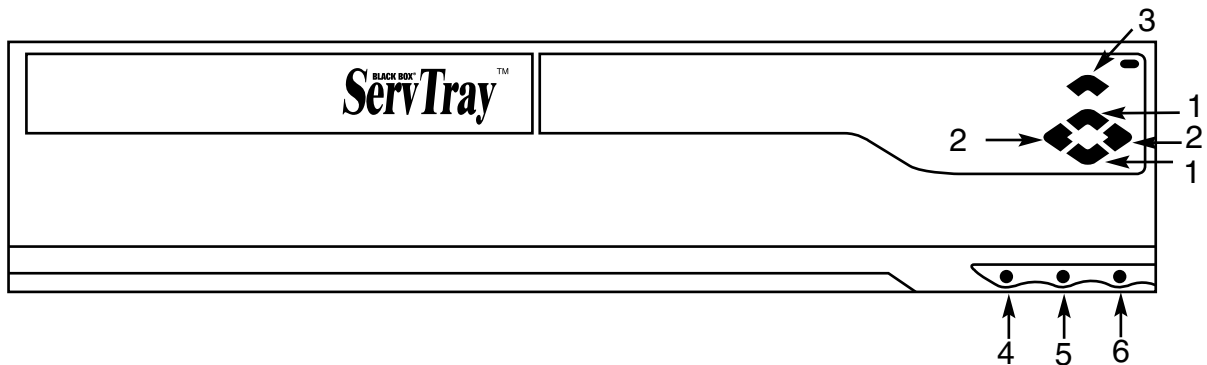

Figure 4-1. The ServTray's components.
Once the ServTray is installed and connected to a PS/2 CPU or ServSwitch, it's ready for operation. Control the unit via the buttons on the LCD panel (labeled 1 and 2 in Figure 4-1) and the LCD panel power switch (labeled 3 in Figure 4-1). Monitor the status via the keyboard status keys (labeled 4, 5, and 6 in Figure 4-1).
2. Use the LCD panel adjustment buttons (2 in Figure 4-1) to adjust settings for the LCD panel.
3. Switch the power to the LCD panel on or off via the power switch (3 in Figure 4-1).